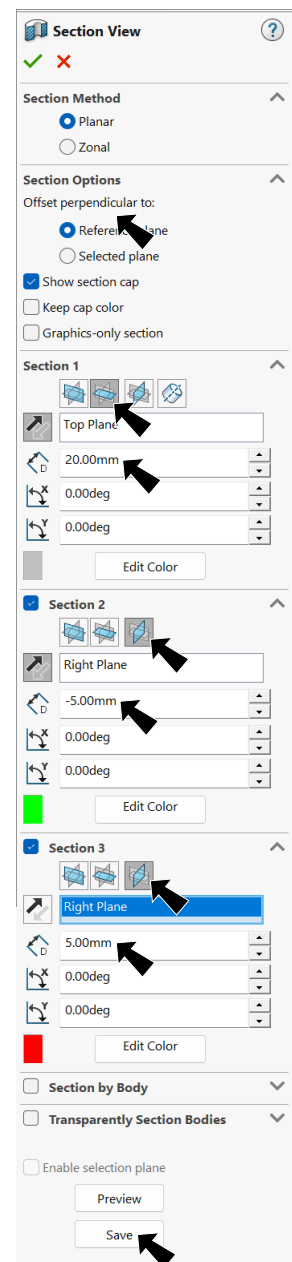

Fig. 158
Step 3. In the Section View Property Manager set: under Section 1, **Fig. 158**